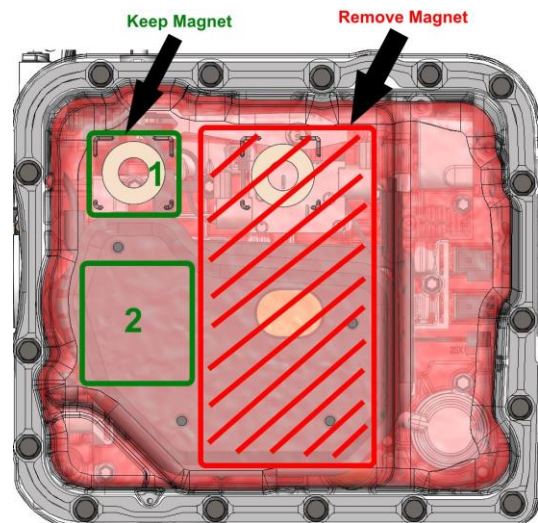

Figure 9
- 26. If there are two magnets inside the pan, remove and discard the magnet closest to the rear of the vehicle as shown in the red box of **Figure 9**. Center the remaining magnet in the forward magnet target in the pan (Green Box # 1).
If an aftermarket pan with a drain plug is being used be sure to locate the magnet in the second green area as shown in **Figure 9**. It is critical to not plug the filter intake, get stuck under the filter feet, or be within close proximity of any of the electronics in the valvebody.